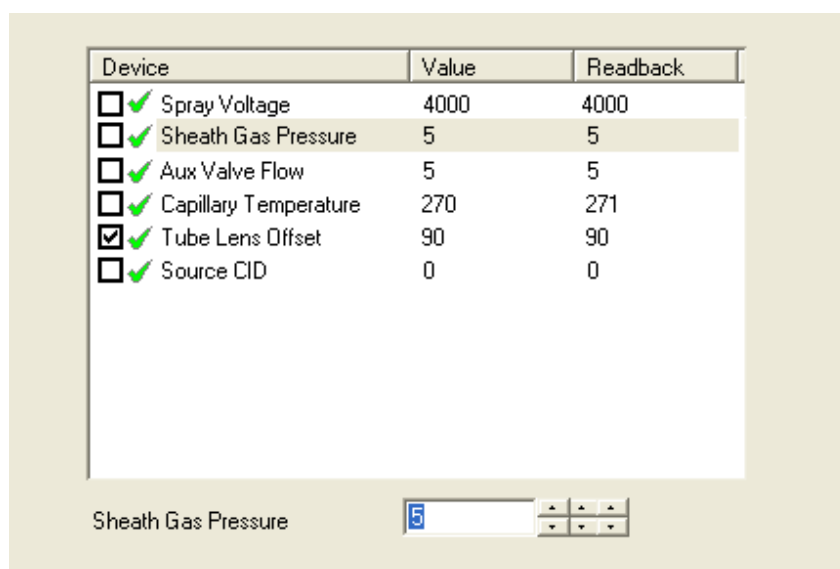

Figure 3-4. Optimize Compound Dependent Devices view
- i. In the Optimize Compound Dependent Devices view in the top right corner of the workspace, in the Device Display box, click on Sheath Gas Pressure. This changes the Device spin box label to *Sheath Gas Pressure* and enables you to change the sheath gas pressure. See Figure 3-4.